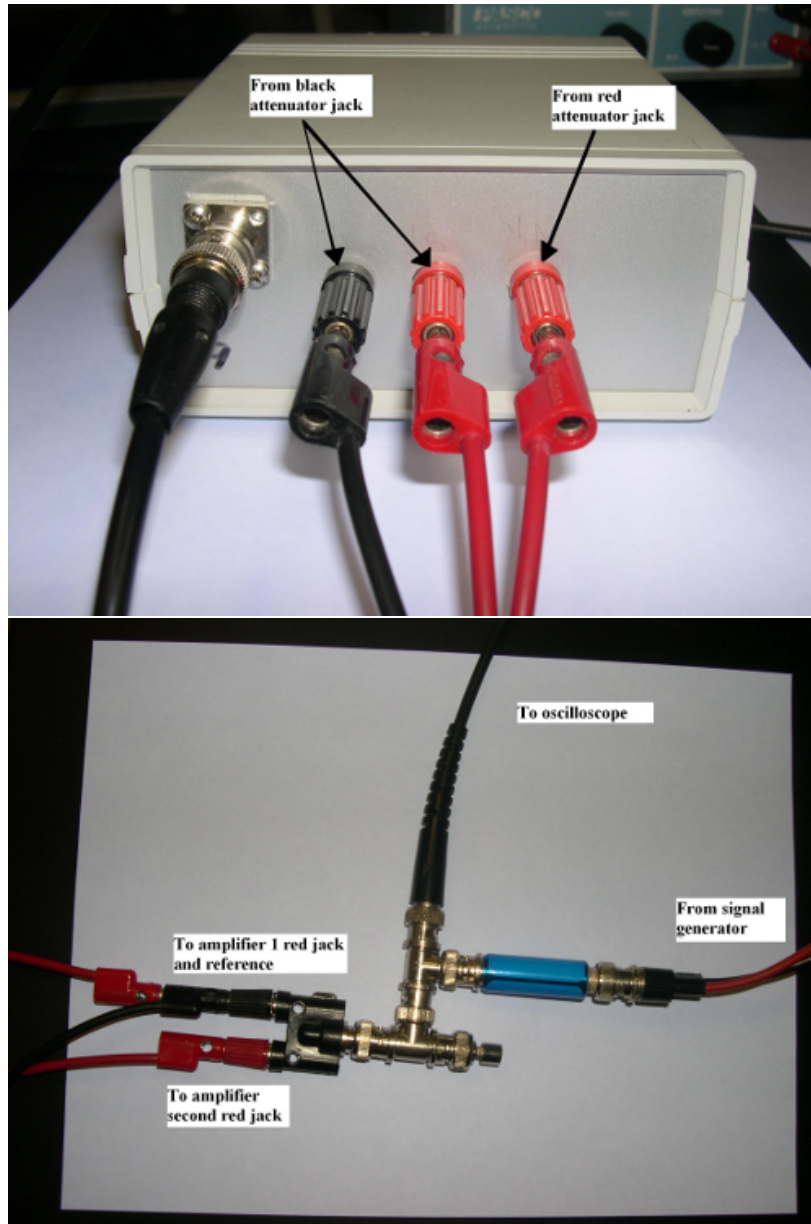

Figure 6.7: Connecting the cables to the amplifier (top) and attenuator (bottom).
- c) Connect the differential amplifier to the out put of the attenuator using banana plug cables as follows: One red jack on the amplifier is connected to the red jack on the attenuator. The other red jack on the amplifier is connected to the black jack on the attenuator. The black jack (reference) on the amplifier is also connected to the black jack on the attenuator. The attenuator and the connections to the amplifier are shown in Fig. 6.7.